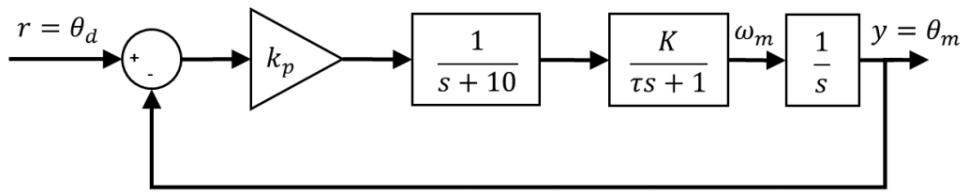

Figure 2: Closed-loop feedback block diagram.
- Given the feedback loop diagram in Figure 2, determine the closed-loop transfer function  $\frac{Y(s)}{R(s)}$  in terms of  $k_p$ . Then substitute values for  $K$  and  $\tau$  in from any of the modeling labs, or if no modeling lab has been done,  $K = 24$  and  $\tau = 0.1$  are good defaults.